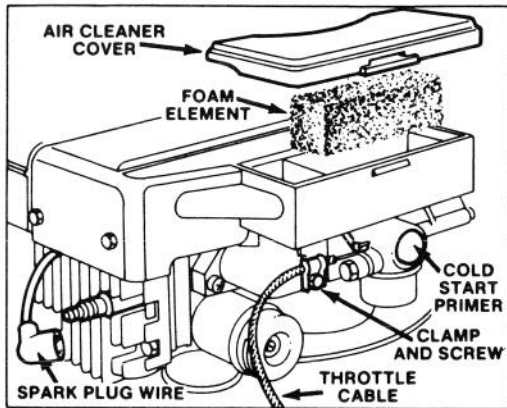

Figure 8
4. **COLD START** — Before starting engine when temperature is below 50 F (10 C), push cold start primer 5 times (Fig. 8), pausing 2 seconds between each push.
1. Stop engine and pull wire off spark plug (Fig. 8).
2. Place fingers under right side of cover and lift it up (Fig. 8). Clean inside and outside of cover if it is dirty.
3. Look at top of air cleaner element (Fig. 8). If it is dirty, the element must be removed from air cleaner body (Fig. 8) and cleaned.
3. Loosen cable clamp screw until throttle cable is free to slide (Fig. 8).
4. Move carburetor control arm to the left until it contacts grounding bracket (Fig. 8). Pull throttle cable slightly to remove any slack, and tighten the cable clamp screw to lock the adjustment in place.
2. Clean around spark plug and remove plug from cylinder head (Fig. 8).